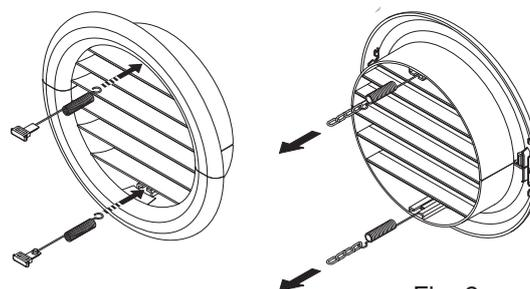

Fig. 9
- Insert the two caps (with spring), on the front part of the external grid, on its two housings, pulling until it clicks. (fig. 9)